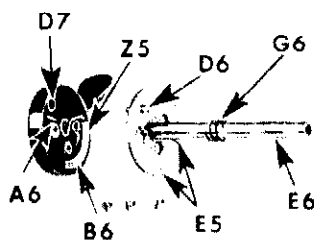

Fig. 138. Bight Lever Assembly
9. Place stop-shoe **B6** into the curved channel at rear of dial unit **Y5**, with drilled end of shoe **B6** next to bight limit nut at position **Z5**, as shown in **Fig. 138**.
10. Engage hooked end of spring **A6** into hole at end of stop-shoe **B6** and set the spring in place as shown in **Fig. 138**.
14. Rotate flange of shaft so that plunger **D6** and spring will slip into hole **D7**, **Fig. 138**.
15. Securely fasten shaft **E6**, **Fig. 138** in position with the three screws. Make certain that plunger **D6** works freely.
through hole at position **D6**, **Fig. 138** so spring remains in plunger and is facing hole at position marked for it at **D7**, **Fig. 138**.